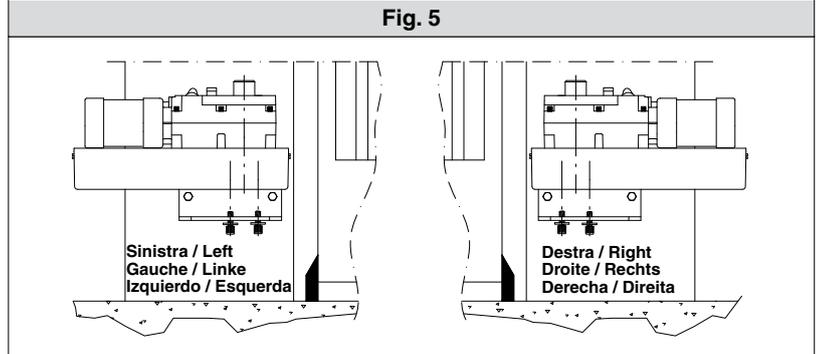

Fig. 6
- Assemble the lever arm as shown in fig.6.